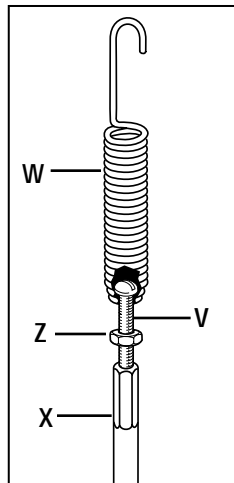
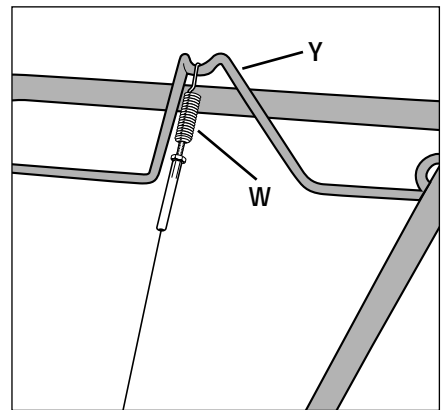

Fig. 2-5: Assemble spring and adjuster.
Fig. 2-6: Install forward clutch cable.
1	Spring, cable (see W, Fig. 2-5, page 8)
3. Insert the #10-24 x 2" slotted hd. screw (V, Fig. 2-5) down into the cable spring (W). The screw threads will extend down through the spring.
4. Thread the #10-24 hex nut (Z, Fig. 2-5) on the screw (V). Thread the hex nut about halfway up the screw.
5. Thread the screw (V) into the cable adjuster (X).
6. Hook the cable spring (W, Fig. 2-6) into the "V"-shaped bend in the forward clutch bail (Y).
a. With the forward clutch bail (Y, Fig. 2-6) in an open (released) position, measure and carefully note the overall length of the cable spring (W) by measuring from the outermost coil to the outermost coil.